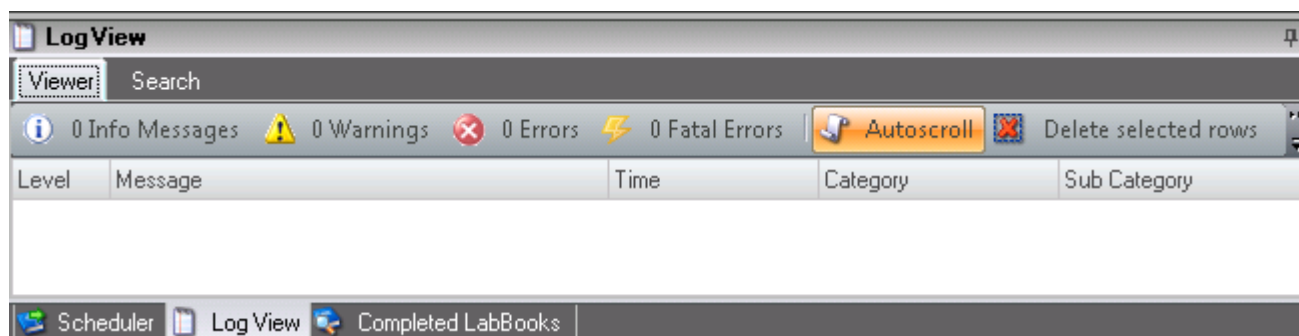

Figure 5-47. Log View in Experiment Editor
2. Click  to open the **Log View** tab, see Figure 5-47.